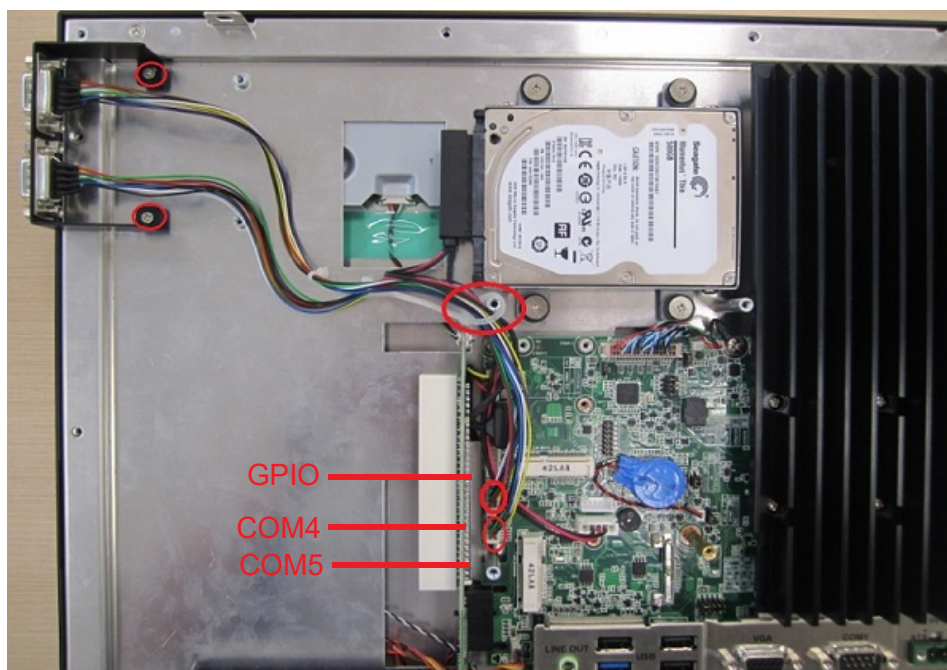

Figure 2.52
2. Retrieve the two COM connectors from the module case and affix them to the I/O shield at the side of the device using two screws. Then connect the COM cables to the mainboard and secure with a cable tie (see Fig. 2.52).